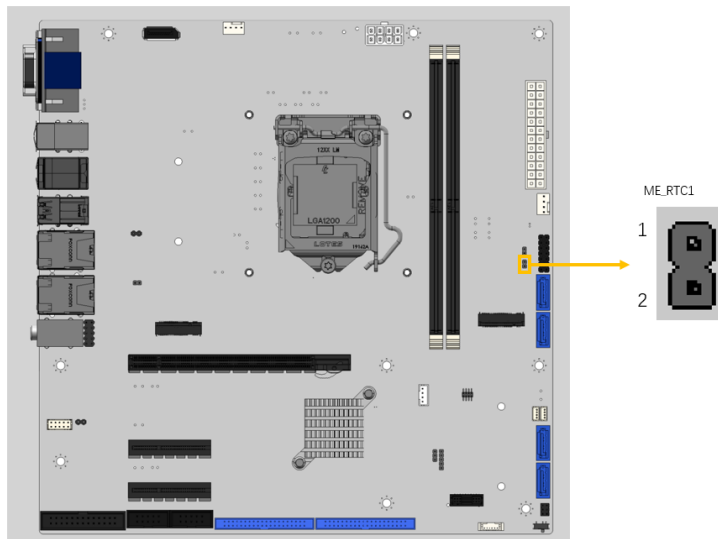

Figure 3-7: Clear ME Jumper Location
- CN Location:** See **Figure 3-7**